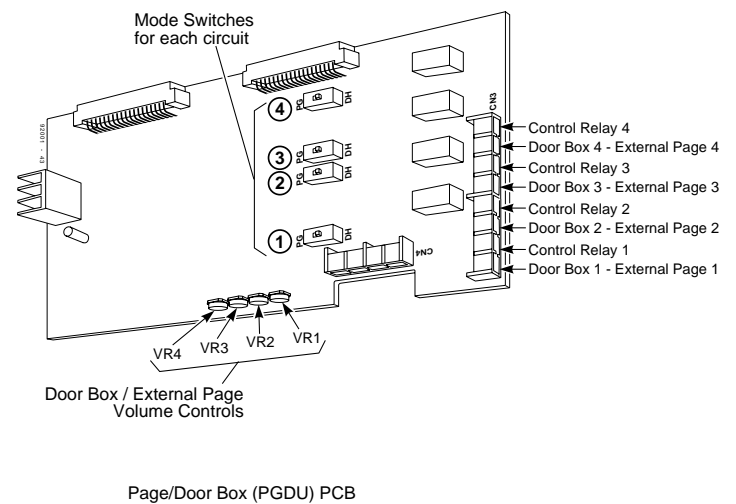

Figure 4-4 CONNECTING TO THE PGDU
1. Locate an available DDK connector in a trunk (A) block or station (B) block.
4. Plug the DDK connector into the External Page (1-4) connector in the PGDU PCB (Figure 4-4).